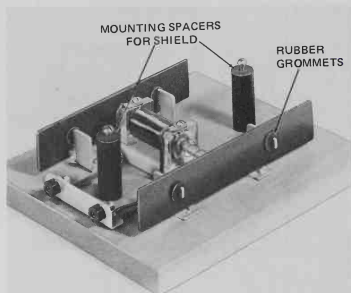

Fig. 18-13. The completed double action DOOR CHIME. You are encouraged to use an original design.
An application of the solenoid coil is the familiar door chime. The chime illustrated in Fig. 18-13 is a double chime and does require more mechanical work than a simple single chime. It is well worth the extra effort. If a good job is done, this chime will be nice enough to use in your home.
1. You will want to do some experimenting with the kinds of tubes or bars you use for your chimes. Generally a thin tube, hard drawn, will produce the most pleasant tone. The tubes or bars can be cut most any length; the longer length gives a lower or deeper tone. In Fig. 18-13 flat pieces of hard steel are used.